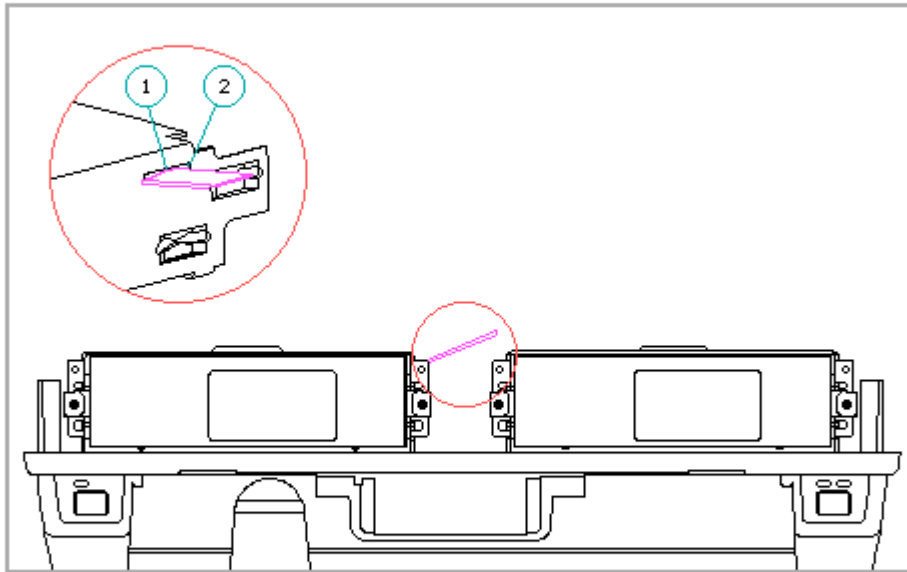

Figure 9-35. Installing the First End of the Drive Cage Spacer
6. Place the first end of the drive spacer [1] into the slot [2] of the first drive cage (Figure 9-35).